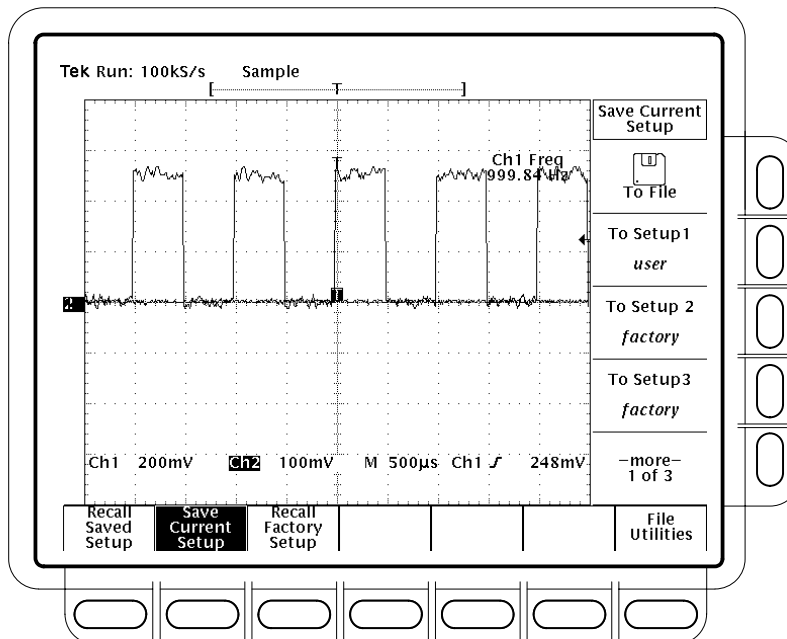

Figure 2–18: Save/Recall Setup Menu
6. Press **SAVE/RECALL SETUP** → **Save Current Setup** (main) to display the Setup main menu. (See Figure 2–18.)